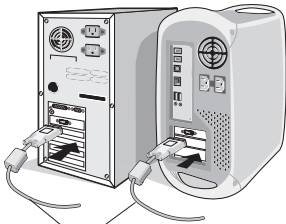

Figure A.1
2. For use with the PC or MAC with DVI digital output: Connect the DVI signal cable to the connector of the display card in your system (Figure A.1). Tighten all screws.